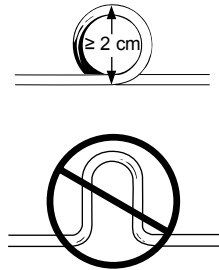

Figure 7. Coiling excess lead.
- Coil the excess lead body into a circular loop greater than 2 cm (0.8 in) in diameter. Do not use a U-shaped loop or bend (Figure 7). A circular loop decreases the possibility of electromagnetic interference and its effects and prevents kinking or damaging the lead body.